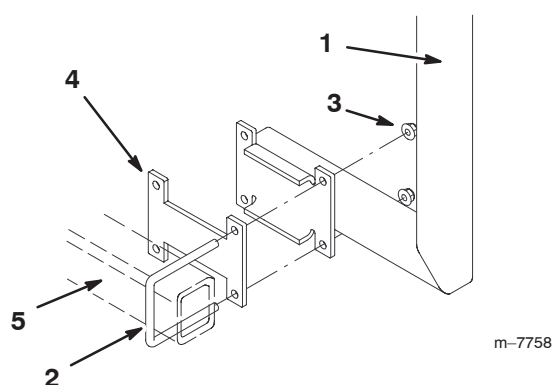

Figure 2
2. Install the left hose reel support (support without the spray gun holder tube on it) to the vehicle frame using 2 U-bolts, 4 flange nuts (3/8 inch) and a spacer. The support should wrap around the rear end of the tank (Fig. 2 and 3). Do not fully tighten the flange nuts to allow for later adjustment.
3. Install the right hose reel support (support with the spray gun holder tube) to the vehicle frame using 2 U-bolts and 4 flange nuts (3/8 inch) (Fig. 2 and 3). Do not fully tighten the flange nuts to allow for later adjustment.